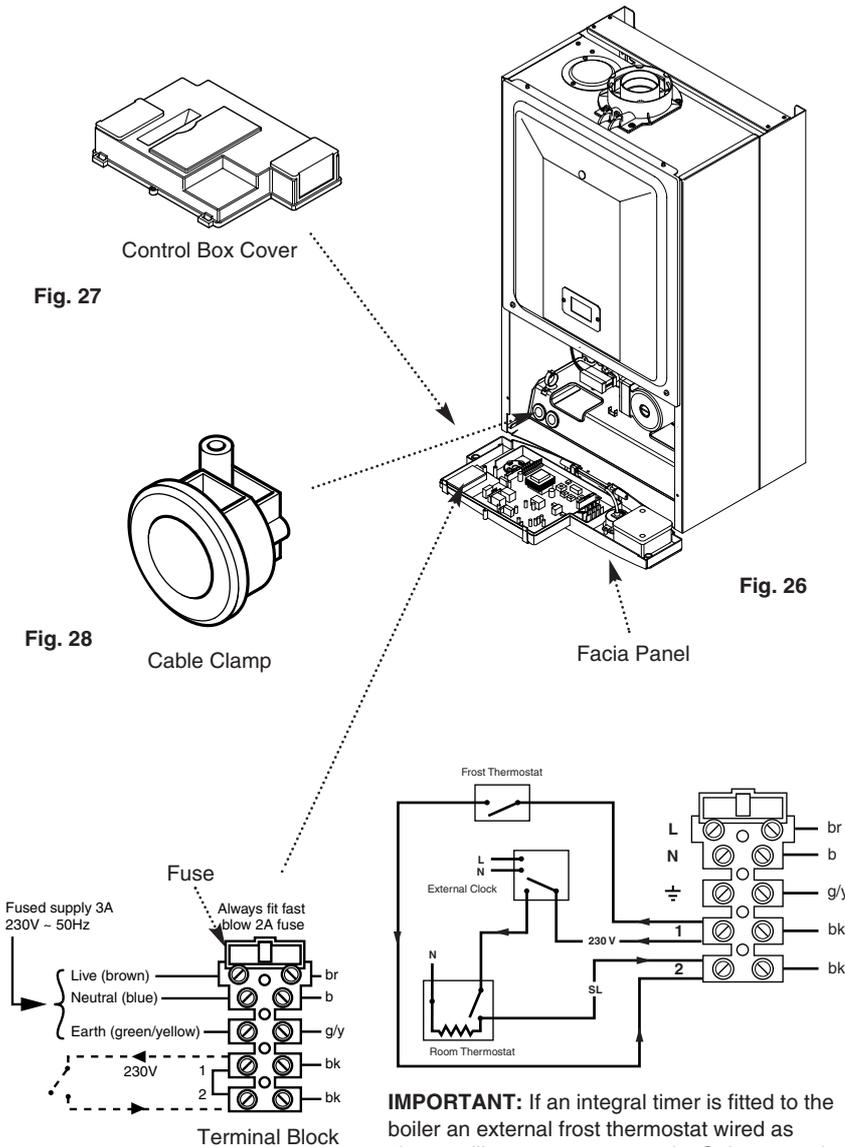

Fig. 29
7. To connect external control(s) remove the link between terminals 1 & 2. The 230V supply at terminal 1 can be connected to the external control. The switched output from the external control must be connected to terminal 2 (Fig. 29).
NOTE: If the room thermostat being used incorporates an anticipator it **MUST** be wired as shown in Fig. 29